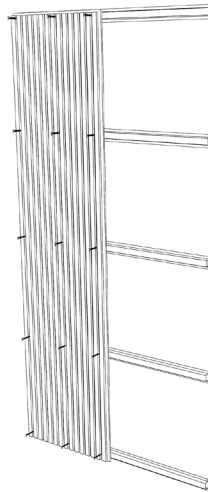

Figure 9. Wall mounting of a HARMONY panel with furring strips.
For a fire-rated installation, it is recommended to use 3/4" FR plywood furring strips or furring channels attached to the wall structure. The HARMONY panels must then be attached to these furring strips. The placement and spacing of the furring strips will depend on the orientation and layout of the panels. Regardless of the direction in which your furring strip is positioned, the support blade must always align with a furring strip to be secured with screws (**Fig. 9**).
For mechanical fastening, we recommend using #6 double-threaded drywall screws, 1-5/8" long, which should be positioned between the wood slats. We recommend using fifteen (15) screws per panel (**Fig. 9**). Depending on the color of the acoustic backing selected, the screw color should match the backing color.